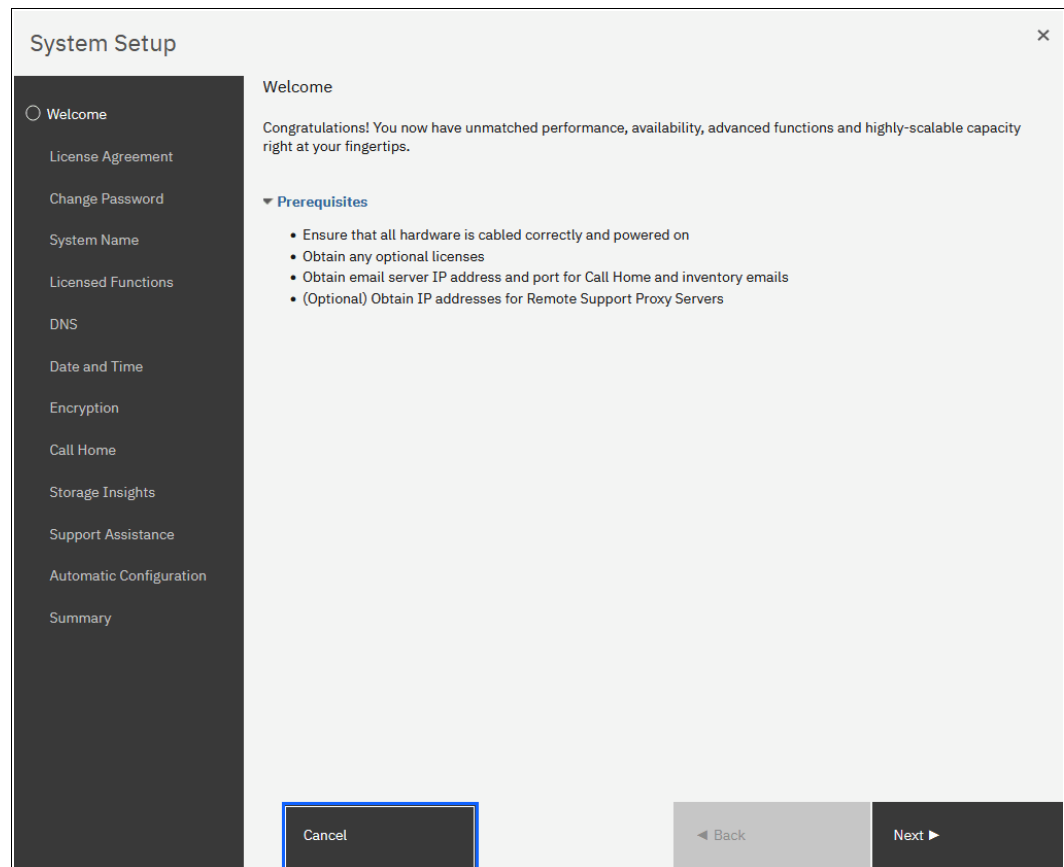

Figure 3-11 Welcome to System Setup window
2. System Setup shows the welcome window, as shown in Figure 3-11. Click **Next**.